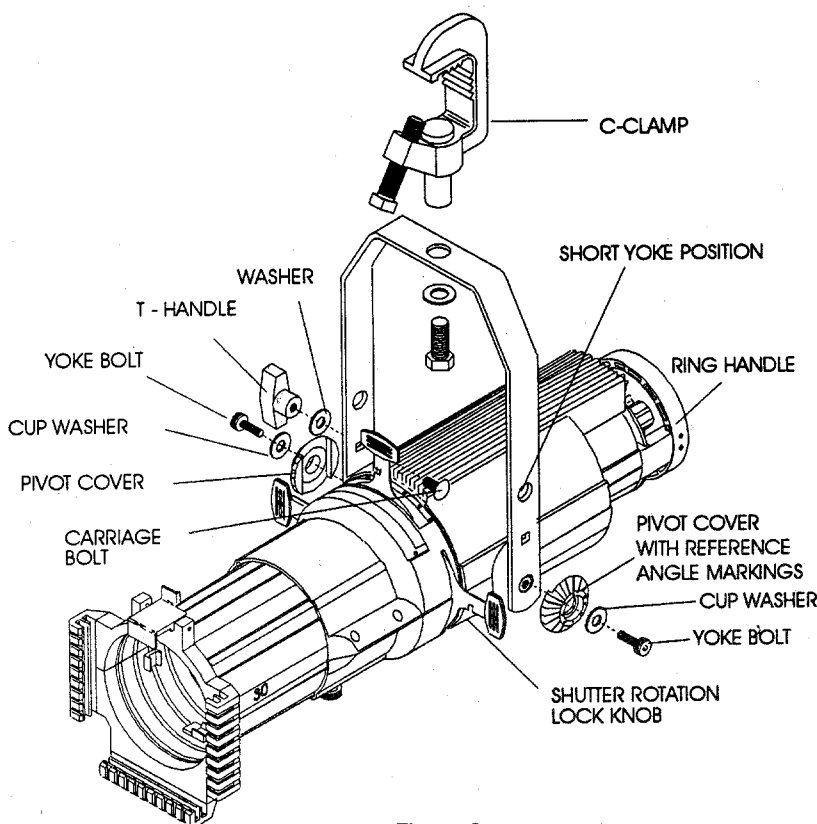

Figure 2
■ USING SHORT YOKE POSITION Figure 2
■ ADJUSTING YOKE Figure 2
■ ROTATING SHUTTER ASSEMBLY Figure 2
■ INSTALLING C-CLAMP Figure 2